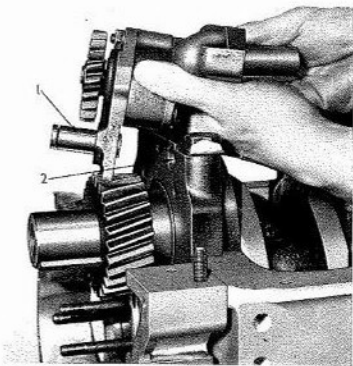

Fig. P.2.
7. Remove the pump. See Fig. P.2.